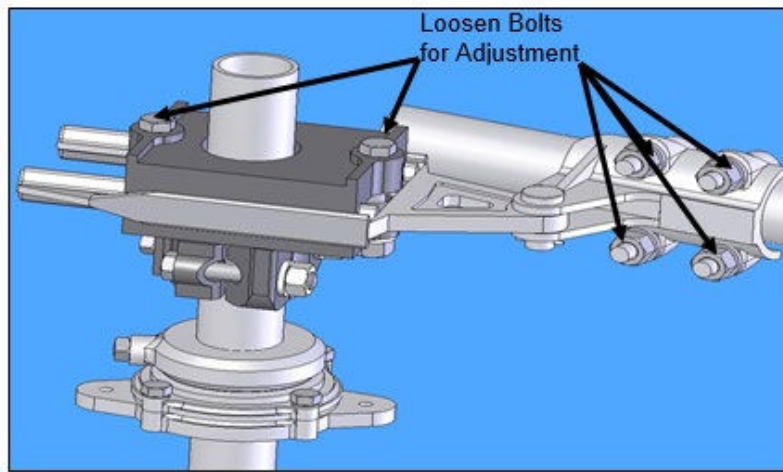

Figure 24: Adjustable Arm Assembly
- 6.4.3.5. Lengthen the adjustable radius arm approximately $\frac{1}{4}$ inch. Allow the pipe clevis to reposition itself the same $\frac{1}{4}$ inch. Refer to **Figure 24**.
- 6.4.4.5. Shorten the adjustable radius arm approximately $\frac{1}{4}$ -inch. Allow the pipe clevis to reposition itself the same $\frac{1}{4}$ inch. Refer to **Figure 24**.